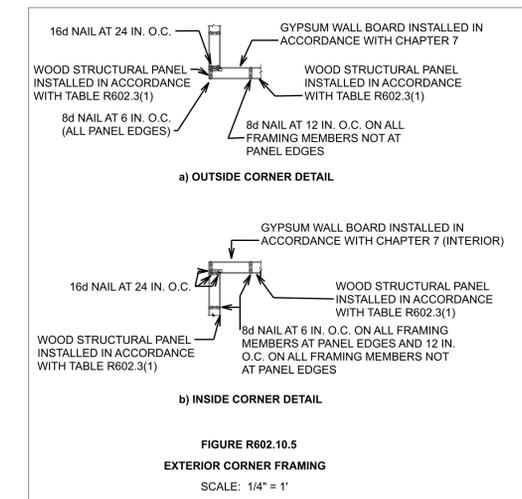

FIGURE R602.10.5
- A MINIMUM 24-INCH-WIDE PANEL IS APPLIED TO EACH SIDE OF THE BUILDING CORNER PER FIGURE R602.10.5, OR
WHEN CONTINUOUS WOOD STRUCTURAL PANEL SHEATHING IS PROVIDED IN ACCORDANCE WITH METHOD 3 OF SECTION R602.10.3, ON ALL SHEATHABLE AREAS OF ALL EXTERIOR WALLS, AND INTERIOR BRACED WALL LINES, WHERE REQUIRED, INCLUDING AREAS ABOVE AND BELOW OPENINGS, BRACED WALL PANEL LENGTHS SHALL BE IN ACCORDANCE WITH TABLE R602.10.5. ALL VERTICAL AND HORIZONTAL PANEL EDGES, REGARDLESS OF LOCATION ALONG A GIVEN BRACED WALL LINE, SHALL BE BLOCKED AND EDGES NAILED. WHEN THIS METHODOLOGY IS UTILIZED, THE MINIMUM LENGTH TO BE CONSIDERED A QUALIFYING BRACED PANEL SHALL COMPLY WITH TABLE R602.10.5. WOOD STRUCTURAL PANEL SHEATHING AT CORNERS SHALL BE INSTALLED IN ACCORDANCE WITH FIGURE R602.10.5. THE BRACING AMOUNTS IN TABLE R602.10.1 FOR METHOD 3 SHALL BE PERMITTED TO BE MULTIPLIED BY A FACTOR OF 0.9 FOR WALLS WITH A MAXIMUM OPENING HEIGHT THAT DOES NOT EXCEED 85 PERCENT OF THE WALL HEIGHT OR A FACTOR OF 0.8 FOR WALLS WITH A MAXIMUM OPENING HEIGHT THAT DOES NOT EXCEED 67 PERCENT OF THE WALL HEIGHT AS PER TABLE R602.10.3(2).